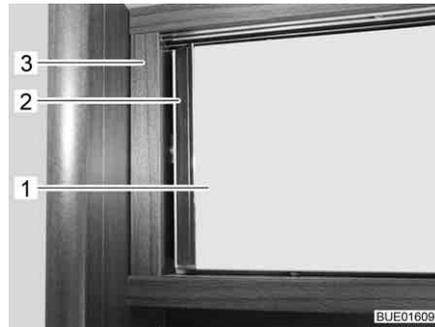

Fig. 70 Furniture flap with pressurised release
- Press the furniture flap (Fig. 70,1) with the handle (Fig. 70,2) against the cabinet body (Fig. 70,3). The furniture flap is unlocked.